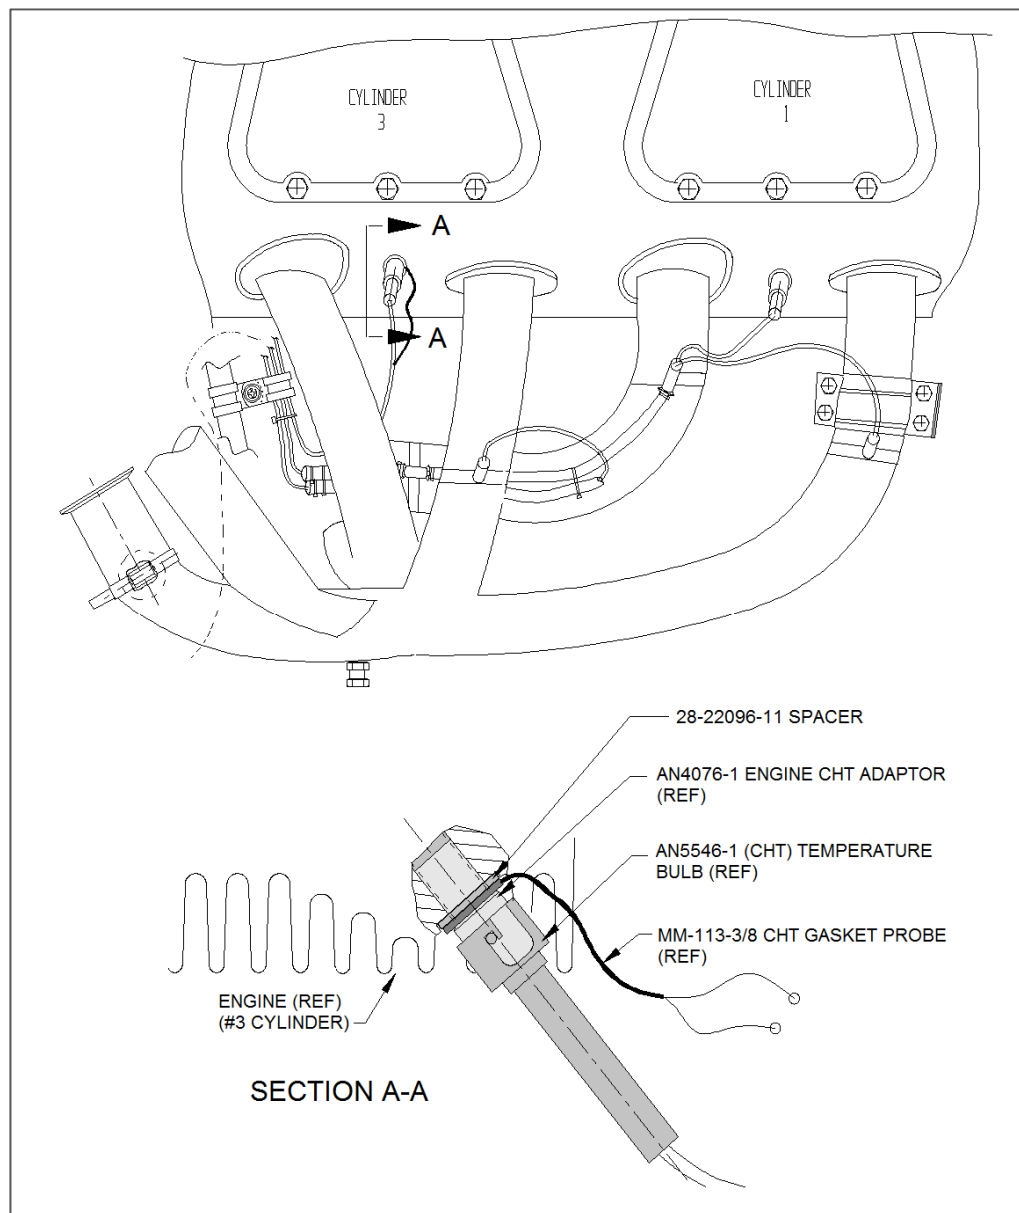

Figure 1. Cylinder #3 CHT Probe Installation
6. INSTALLATION: (Refer to Figure 1)